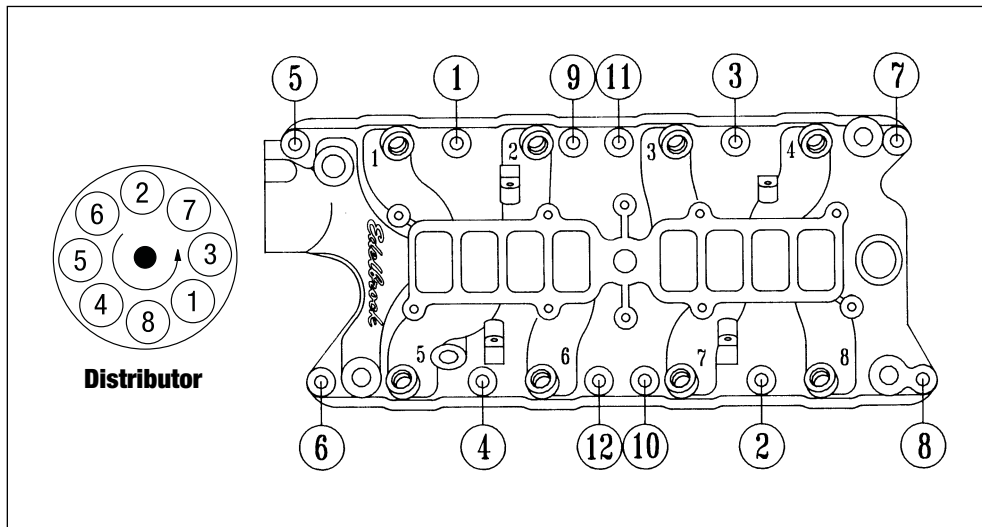

Figure 1 - Intake Manifold Tightening Sequence and Firing Order
4. For ease of installation, we recommend using Edelbrock manifold bolt and washer kit #8524. It may be necessary to re-use the original stud bolt to hold heater tube bracket in hole #3 **(See Figure 1)**.
5. Install lower intake manifold and retaining bolts. Tighten bolts to 15-18 ft./lbs. in sequence **(See Figure 1)**.